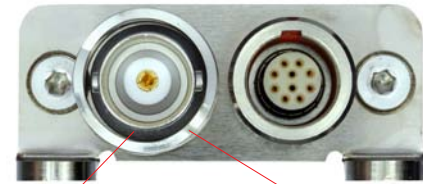

*Fig. 29 Multi corrugated spring ring*
- ➡ Connect the signal ground (GND) with the housing ground (PE), e.g. by clamping the supplied multi corrugated spring ring between controller housing and BNC cap (or BNC connector), see Fig. 29, see Fig. 30, see Fig. 31.